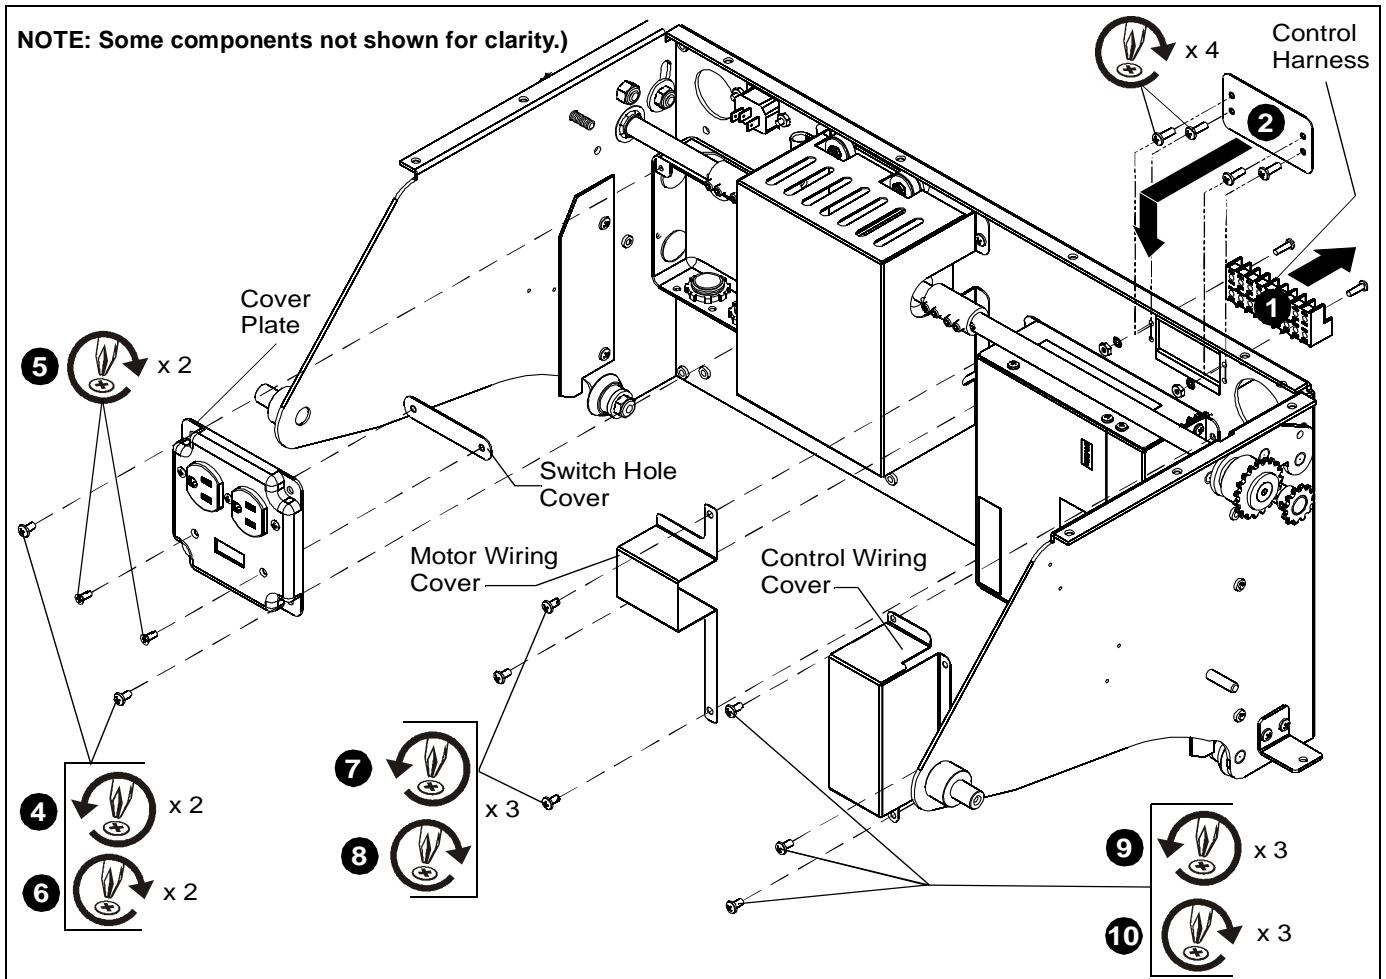

Figure 9
4. Remove and save two Phillips head screws from opposite corners of cover plate, and remove cover plate from SL-236. (See Figure 9)
2. Remove the yaw adjustment bracket from the lift (see Figure 9).